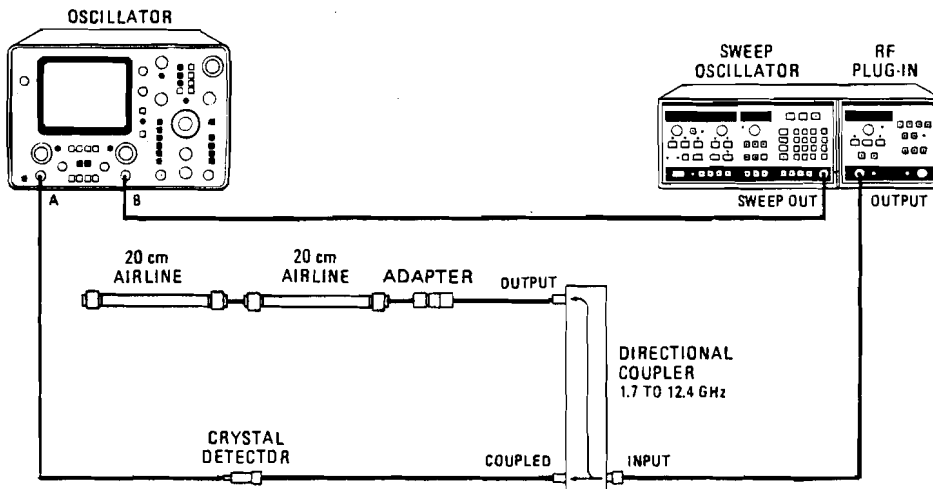

Figure 4-11. High Frequency Output VSWR Test Setup
7. Connect equipment as shown in Figure 4-11.